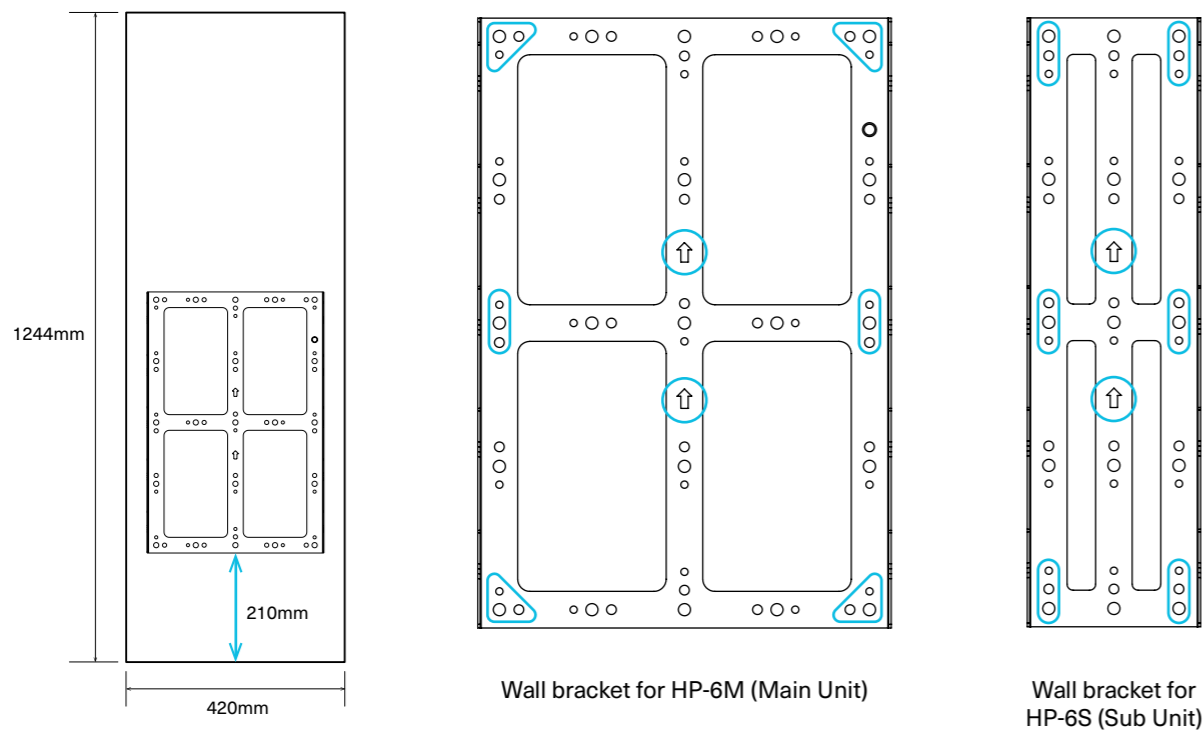

Fig. 8. Wall bracket for HP-6M (Main Unit) & HP-6S (Sub Unit)
- Wood & metal stud walls - use a minimum of six (6) fasteners, one for every corner, and a further two in the next most suitable positions (as shown in Fig. 8).
- Concrete or masonry walls - use a minimum of four fasteners, one for every corner (as shown in Fig. 8).